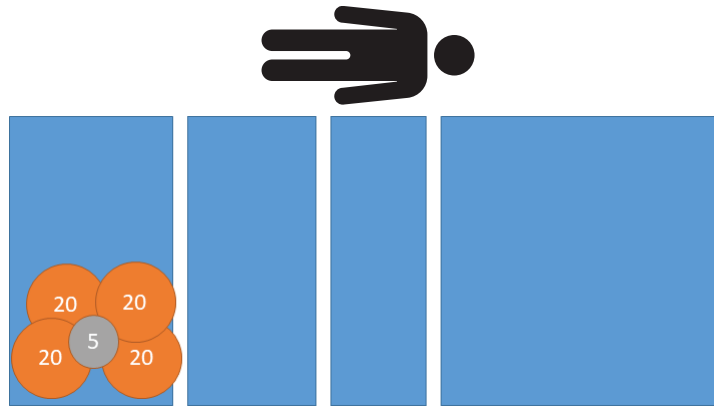

Figure 14 – Eccentricity test - 85 kg foot left
2. Using calibrated weights, place 85 kg at the foot, left of the product (Figure 14).